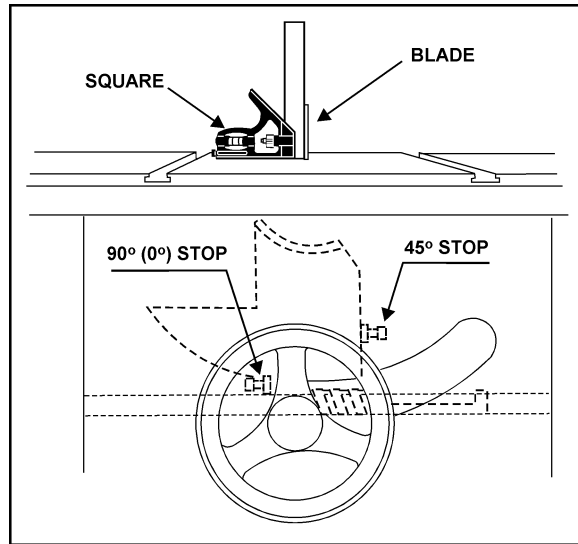

Figure 16
Using a combination square, check the 90 degree (0) and 45 degree stops. (Figure 16 shows the 90 degree stop being checked.) Adjust stop positions if required, using the stop screws as shown. Check the accuracy of the pointer at 90 degrees (0) and re-adjust if required.